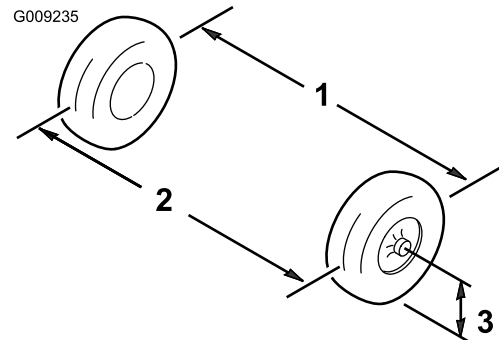

Figure 62
6. Measure the distance between both of the front tires at the axle height at both the front and rear of the front tires (Figure 62).